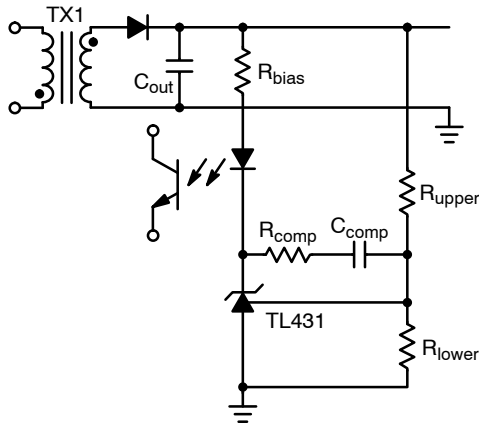
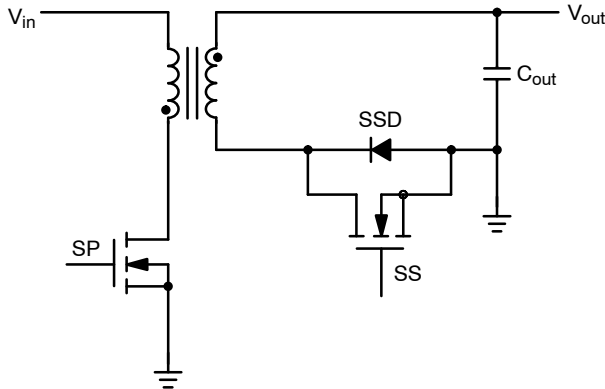
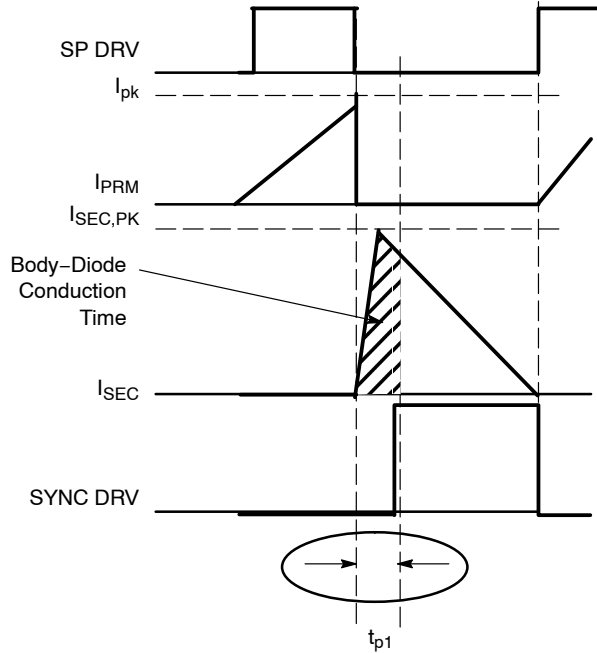

Figure 29. Typical Secondary Side Regulator
Figure 30. Synchronous Rectifier
Figure 31. Discontinuous Conduction Mode Waveforms
When the TL431 is being used to regulate the output of a power supply it is typically configured as shown in Figure 29. Where the output from the power supply is sensed and divided down with a resistive divider made up of R_{upper} and R_{lower} . The center point of the divider is connected to the reference pin of the NCP4302. The divider ratio scales down the output voltage to match the reference voltage, 2.5 V or 1.25 V.
The R_{bias} resistor in Figure 29 sets the current through the TL431, which must be greater than 0.5 mA to guarantee its performance under all operating conditions.
For a flyback converter to operate correctly with synchronous rectification there must be a delay between the time when the primary side MOSFET (SP Figure 30) and the secondary side Synchronous rectification MOSFETs (SS Figure 29) are conducting current. The NCP4302 can
The basic switching waveforms for the Flyback converter operating in DCM are shown in Figure 31. When the primary side MOSFET (SP in Figure 30) is turned-on current flows is the transformer primary and ramps up from zero to I_{peak} . When the primary side MOSFET (SP) turns-off, the polarity of the transformer reverses and the energy stored in the transformer is transferred to the secondary. When the energy transfer from the transformer primary to the transformer secondary begins, (prior to the secondary side synchronous MOSFET turning-on) the secondary current flows through the internal body diode synchronous rectifiers MOSFETs (SS) and (SSD). To minimize the losses in the SSD, the propagation delay (t_{p1}) must be low. Otherwise, there will be high losses associated with the secondary peak current and the SSD forward voltage drop (NCP4302 has a typical propagation delay of 50 ns).